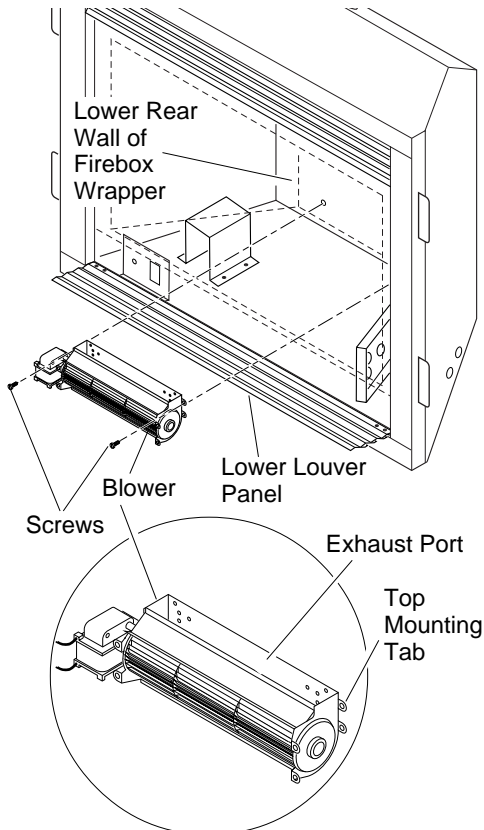

Figure 30 - Mounting Blower to Firebox
IMPORTANT: For clarity, gas valve assembly and grate/burner assembly are not shown in Figures 30 through 31, page 17. They will, however, be in your fireplace when you are installing the blower. Also for clarity the firebox is shown with dotted lines.
2. Place the blower against the lower rear wall of firebox outer wrapper with the exhaust port directed upward. Align the holes in the top mounting tabs of blower with holes in wall of wrapper (see Figure 30, page 17). Using the two screws provided, mount blower and tighten screws securely.